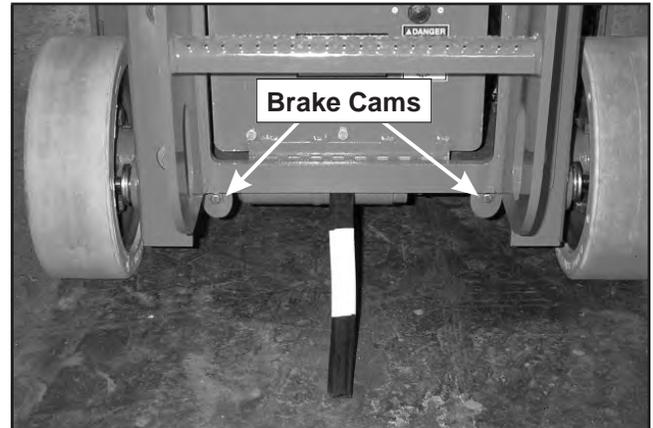

Figure 11.2—Brake Release Cam
3. Use a  $\frac{7}{8}$ " wrench to rotate each brake release cam 90° (refer to Figure 11.2). Rotate the cam on the right brake cylinder counterclockwise and the one on the left brake cylinder clockwise. Remove the wrench.